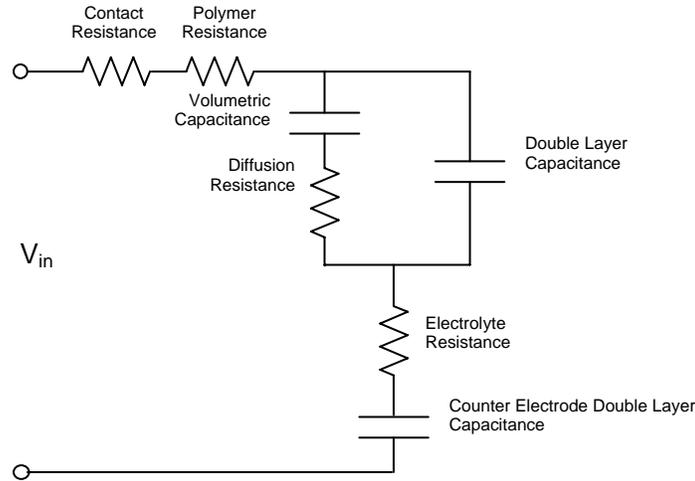
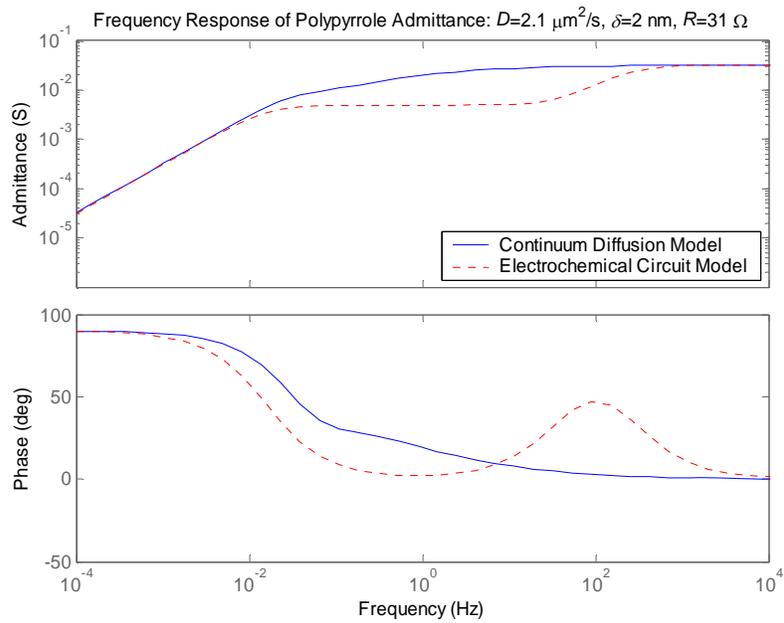

Figure 1: Basic Structure of EAP Electrochemical Circuit
Figure 2: Circuit and Continuum Models of Polypyrrole Admittance
A paper by H. Searl Dunn¹ develops an electric circuit (figure 2) equivalent to a component of a web conveyance system (figure 1) which is used to show that the web conveyance system can exhibit wave-like behavior—a useful physical insight. **Your task** is to check the equivalence and quantify the wave-like behavior.
1. Develop a bond graph for the system diagrammed in figure 1. Assuming T_1 and T_2 are inputs, derive state equations. Show that they agree with Dunn's equations 2a and 2b. (Be careful: a poorly formulated bond graph can result in excessive algebra.)
4. Develop a bond graph for the circuit of figure 2, again assuming T_1 and T_2 are inputs. Is the electric circuit of figure 2 equivalent to the mechanical system? Under what conditions? Does it yield equations 2a and 2b? What is the physical meaning (in terms of the forces and velocities in the mechanical system of figure 1) of the voltage across the capacitor and the current in each of the three inductors in figure 2?
Transmission matrices (introduced to model wave-like behavior) may also be applied to model diffusion. In assignment 2 you modeled the transduction behavior of an Electro-Active Polymer Actuator based on PolyPyrrole (PPY). In this problem you are to model its electrical dynamics. Immersed in an ionic solution, applying a voltage between PPY and a “counter electrode” induces an accumulation of charged ions adjacent to the material surface and a subsequent diffusion of ions into the material. Bowers² presents a simplified electrical circuit model of the electrochemical process shown in figure 1.
where s is the Laplace variable, R is the total resistance of the circuit, C is the total volumetric capacitance, D is a coefficient characterizing the speed of diffusion, δ is the width of the double layer gap, and a is the thickness of the polymer. The circuit and continuum models are compared in figure 2 using Madden’s parameters: